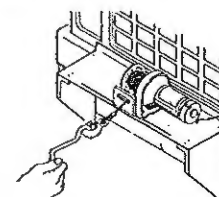

Figure 3
7. **KEEP CLEAR OF THE WINCH, WIRE ROPE, AND HOOK WHEN OPERATING WINCH. NEVER** put your fingers through the hook when reeling in the last few feet of line. If your finger should become trapped in the hook, you could lose your finger. Use the **HAND SAVER BAR** (Figure 3) to guide the hook within the last few feet. Never guide a wire rope on or off the drum with your hand.
8. **NEVER HOOK THE WIRE ROPE BACK ONTO ITSELF.** Use a nylon sling (Superwinch Part No. 1509). Hooking the wire rope onto itself can damage the rope (Figure 3).